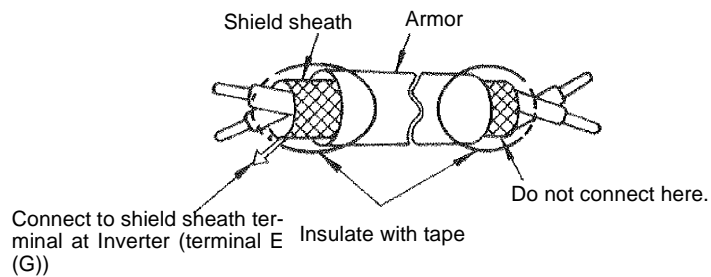

Fig 2.15 Processing the Ends of Twisted-pair Cables
- Use twisted-pair or shielded twisted-pair cables for control circuits to prevent operating faults. Process cable ends as shown in *Fig 2.15*.
- Connect the shield wire to terminal E (G).